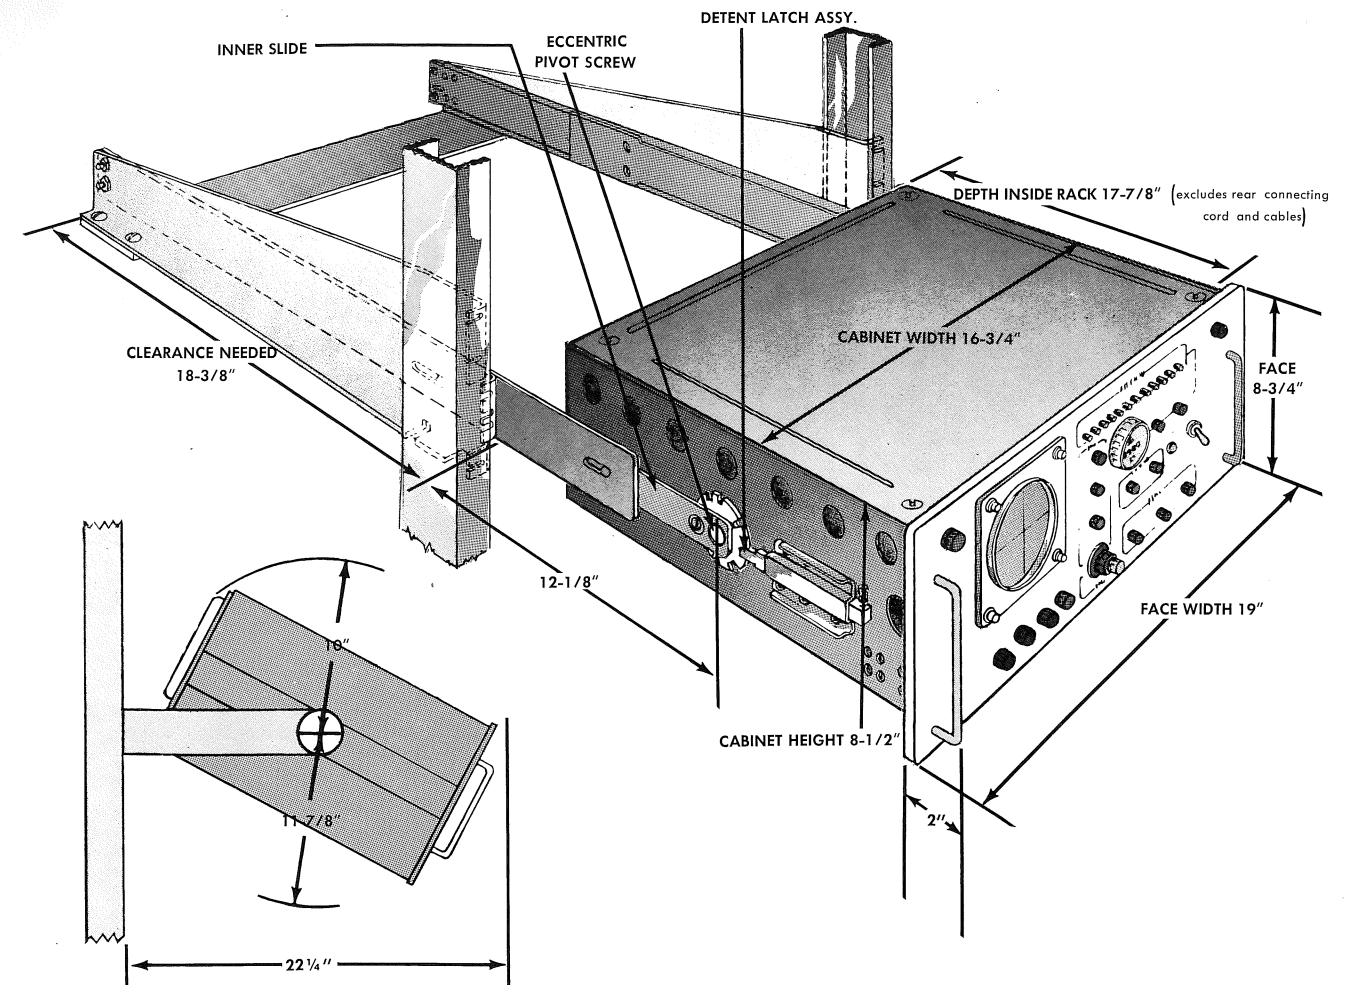

Fig. 2-3. Vectorscope mounting dimensions. These dimensions indicate the space you must allow for mounting the Vectorscope.
Fig. 2-3 shows the dimensions of the space required for mounting the Vectorscope.
5. Place the Vectorscope in the Chassis-Trak slides as shown in Fig. 2-3. Operate the slide mechanism several times with the instrument installed. If the operation of the slides is not smooth, loosen all the bolts and allow the slide mechanism to adjust to the weight of the instrument. Be sure to retighten all bolts after the mounting has been adjusted.